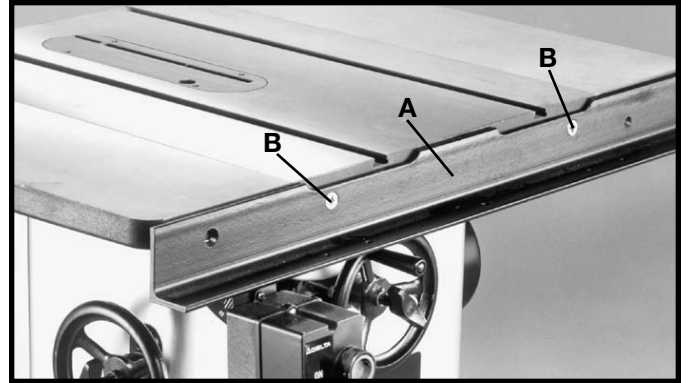

Fig. 92
1. Assemble the front rail (A) Fig. 92, to front of saw table using the two 3/8-16 x 1-1/4" long flat head Phillips screws (B), 7/8" flat washers, lockwashers and 3/8-16 hex nuts supplied. Screws (B) are inserted through the two holes in the front rail, as shown and through the two through holes in the front of the saw table and fastened to the table with the flat washers, lockwashers and hex nuts. **IMPORTANT:** Do not completely tighten front rail mounting hardware at this time.